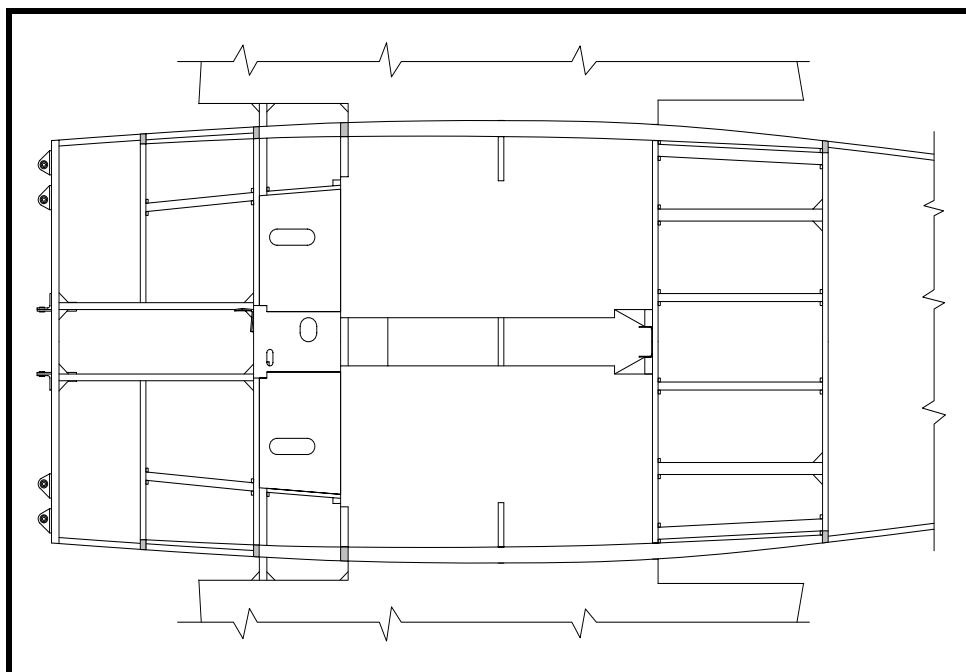

Figure 19
- ❑ Cut the two removable floor boards to fit the area between Sta. 3 and 4. See Figure 19. The outboard edge should be 10mm from the outboard floor support (to leave room for the gluing strip for the inside cockpit side walls). Cut the openings for the control sticks.